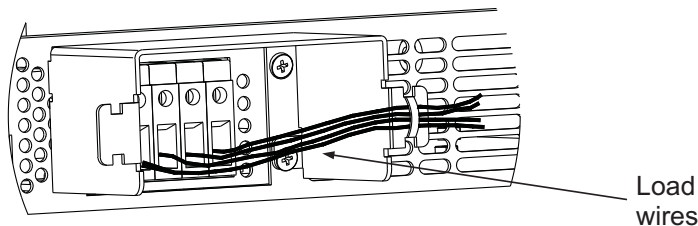

Fig.3-9: Protective shield and wires assembly
6. Tighten the wires to one of the shield sides using ty-wrap or equivalent. Refer to Fig.3-9. Ensure that the wire length inside the shield is long enough to provide strain relief.